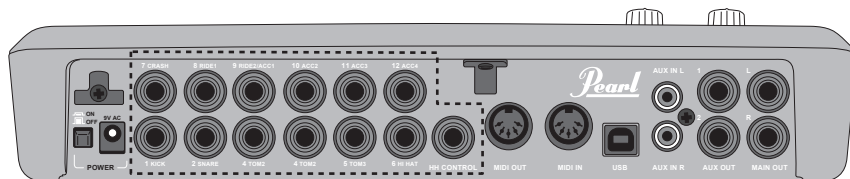

Fig.26
1. Each cable is marked with the name of the component it connects to. Take the bundled side and match each cable to its corresponding jack on the back side of the r.e.d.box (Fig. 26).